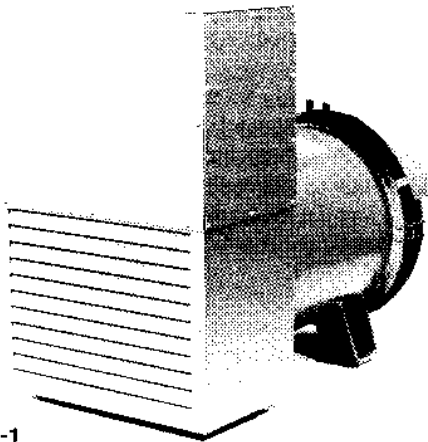

FIGURE 6-1
1. Remove conduit box covers (Figure 6-1 and 6-2).